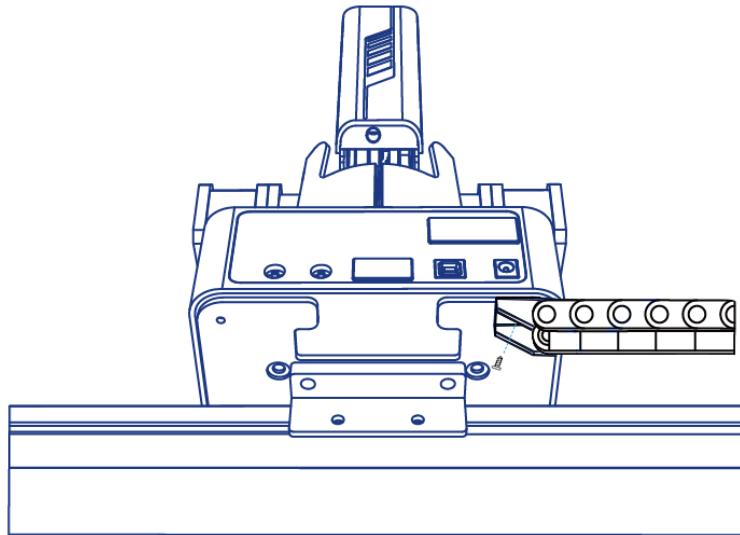

Figure 5.191 Connect with wire set
Step 3 Connect the end of the wire set to the plate b with a M3*6 countersunk head hexagon screw, as shown in Figure 5.191.